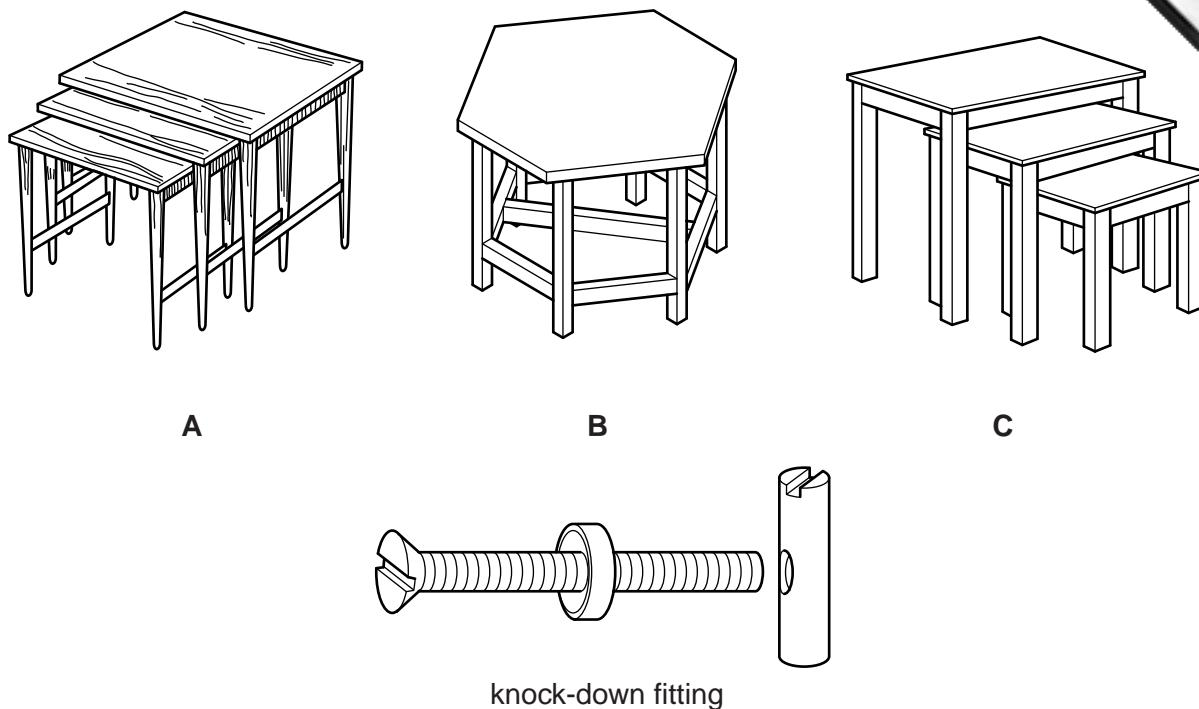

Fig. 8
- 6 Fig. 8 shows a range of designs for nesting tables and a knock-down (temporary) fitting.